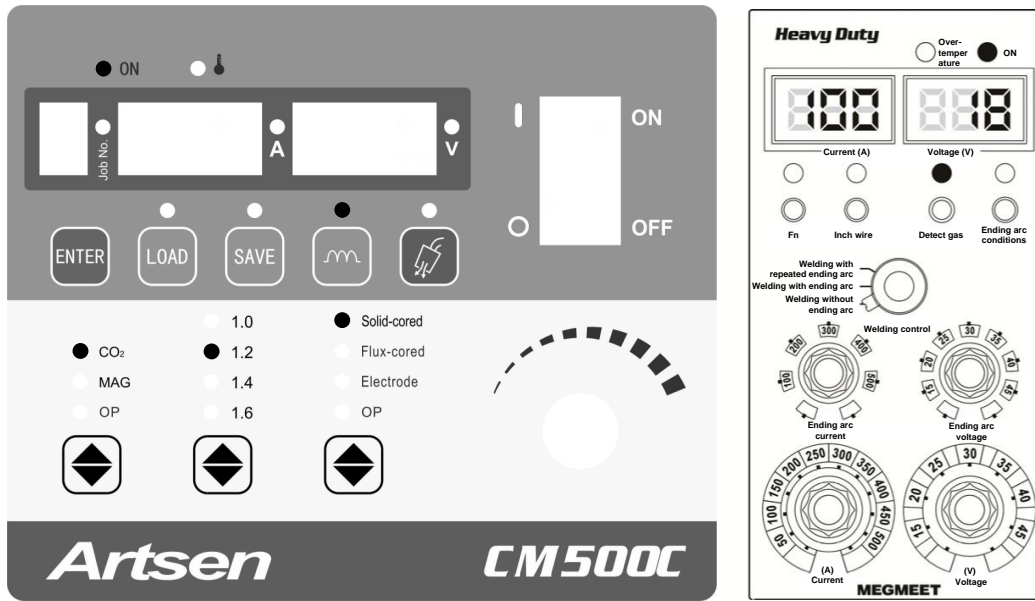

Figure 3-16 Setting gas detection
- You can use the **Detect gas**  button on the control panel of the welder or wire feeder to set parameters. See Figure 3-16.